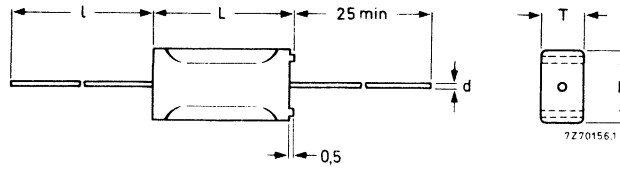

Fig. 1 Capacitors 2222 341.
Table 1 U_R (DC) = 100 V; max. AC voltage = 63 V; Fig. 1
Table 2 U_R (DC) = 250 V; max. AC voltage = 160 V; Fig. 1
Table 3 U_R (DC) = 400 V; max. AC voltage = 220 V; Fig. 1